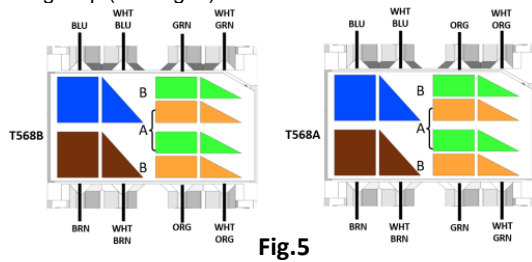

Fig.5
1. Wiring map (see Fig. 5) Label affixed on Jack IDC housing.